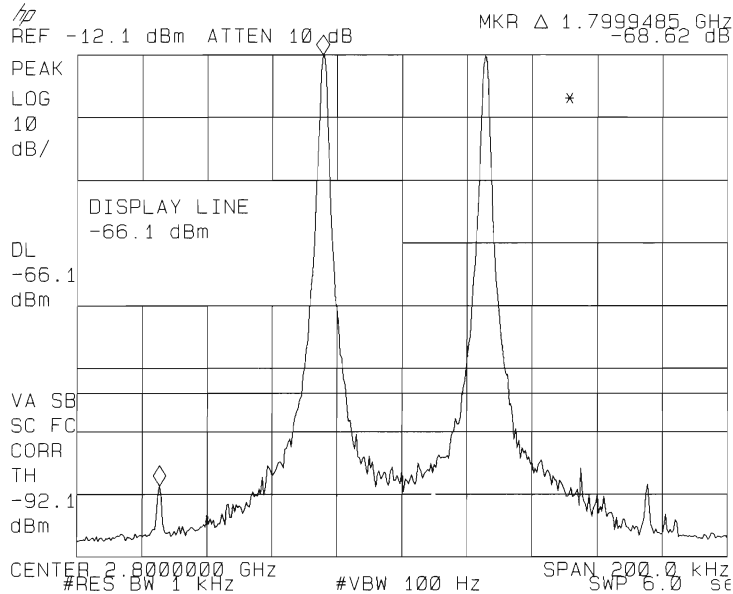

Figure 2-51. Third Order Intermodulation Distortion
18. The third-order intermodulation distortion products should appear 50 kHz below the lower frequency signal and 50 kHz above the higher frequency signal. Their amplitude should be less than the display line. See Figure 2-51.